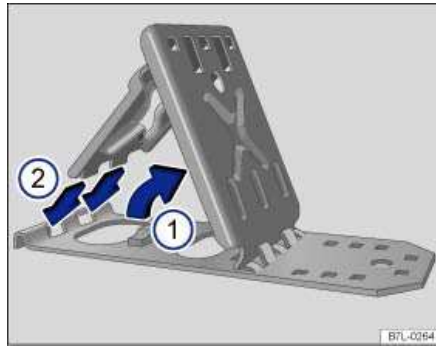

Fig. 191 Unfolding the folding chock.
- Raise the support plate ⇒ fig. 191 \(1\).